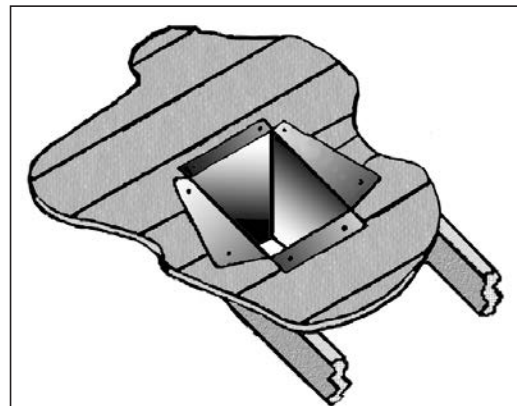

Figure 40: Cathedral Ceiling Support Box Installation.
5. Using tin snips, cut the "Support Box" from the top corners down to the roof line, and fold the resulting flaps over the roof sheathing (Figure 40). Before nailing it in to the roof, run a bead of non-hardening mastic around the top edges of the "Support Box", to make a seal between the box and the roof. Clean out any combustible material from the inside of the "Support Box".